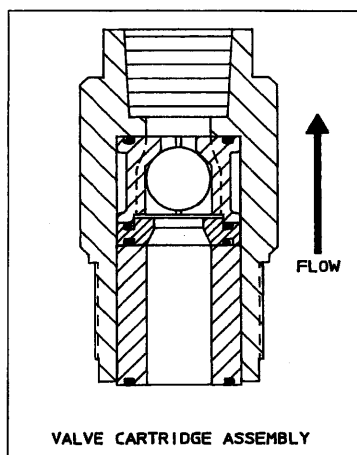

Figure 15
9. Reinstall both new valve assemblies, taking care to ensure that they are in the correct ports. It is not necessary to coat the threads of the cartridge valve with a pipe sealant. Refer to Figure 15.